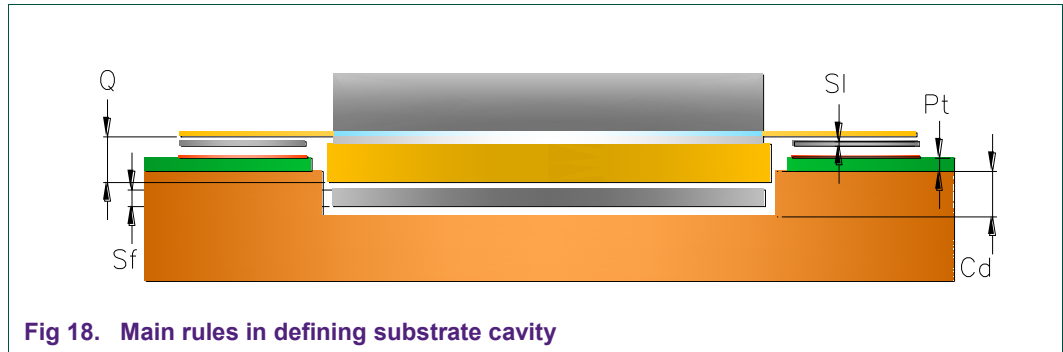

Fig 18. Main rules in defining substrate cavity
- The PCB thickness (Pt, see Fig 18).